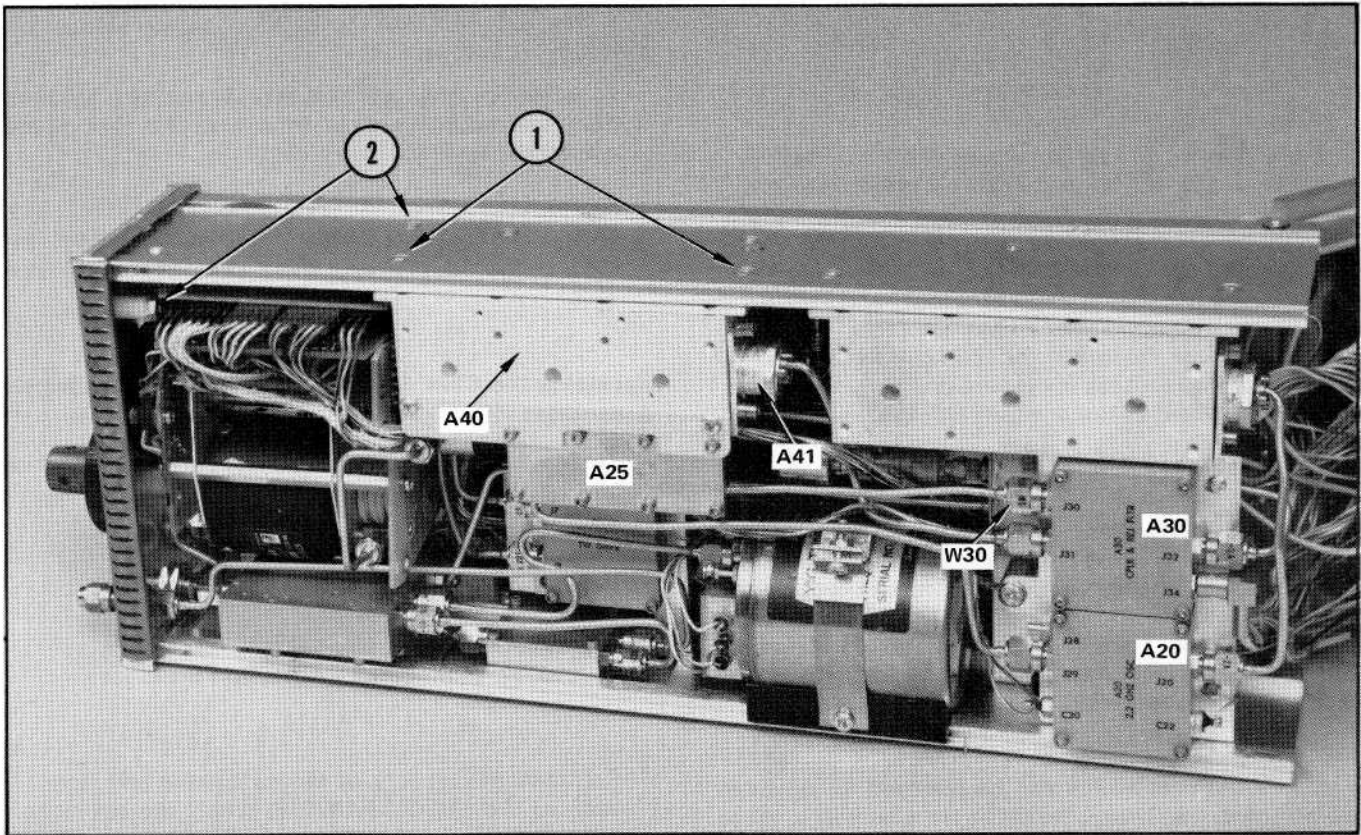

Fig. 6-4. Location of screws and assemblies that are referenced in the procedure to remove the display mode push button circuit board.
1. Disconnect the semi-rigid cable W30 from J31, of the Coupler and Band Reject Filter (A30). Loosen and remove the mounting screws for assembly A40 (No. 1 in Fig. 6-4). Remove the mounting screws and nut holding the switch mounting bracket (No. 2 in Fig. 6-4).